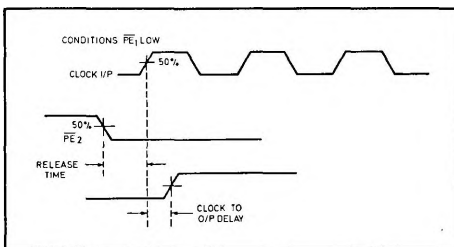

Fig. 4 Release timing diagram
- Release time is defined as the minimum time that can elapse between a H $\rightarrow$ L transition of a control input and the next L $\rightarrow$ H clock pulse to ensure that the  $\bar{2}$ 11 mode is forced by that clock pulse (see Fig. 4).